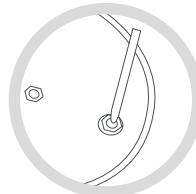

Fig. 6
2. Safety valve (7). Check that the safety valve (7) operates correctly by pressing the valve with a fine rod from inside the lid (1) (Fig. 6). To operate properly, it should slide freely from top to bottom. If it is blocked, do not use the pressure cooker. It must be taken to a Fagor-authorised technical service centre for servicing.